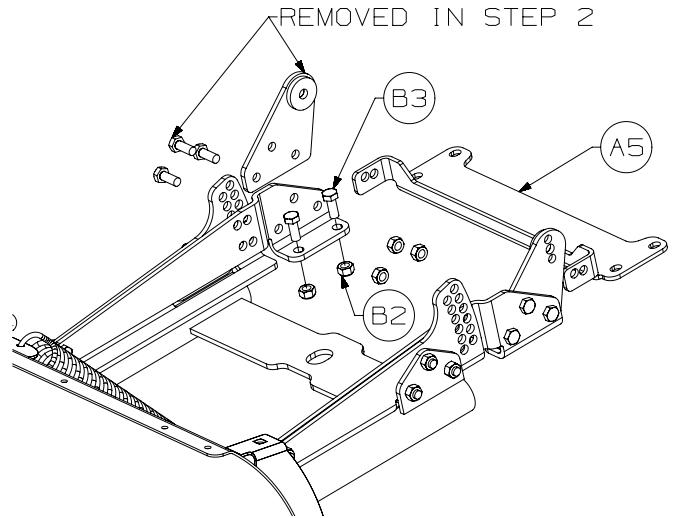

Figure 4
5. Install the rear bracket (A5) using M10 fasteners (B3, B2). Do not tighten at this time. See figure 4.
6. Install the flanges removed in step 2 to the flange mounting bracket in the same orientation. See figure 4.